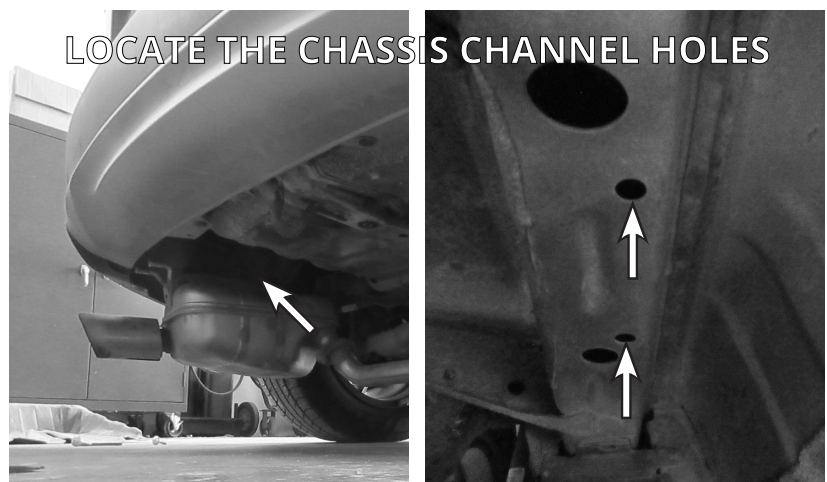

FIGURE A3: VIEWS UNDER THE VEHICLE
3. Under the rear of the vehicle, above the two rearward mufflers, identify the chassis channels where the holes for installing the side plates are located, see Figure A3.